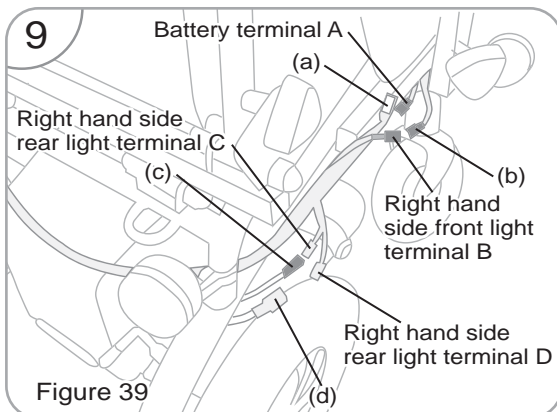

Figure 39
9. Connect right lighting cable A~D onto a~d terminals. (See Fig. 39).